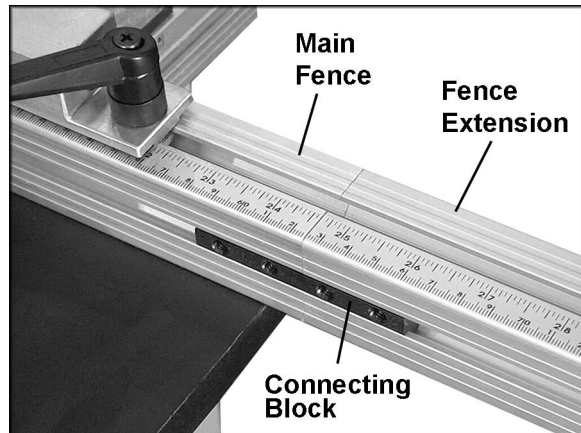

Figure 4
1. On the main Fence, loosen the four set screws in the front connecting block (Figure 4) and the rear connecting block (not shown) with a 2.5 mm hex wrench.
2. The connecting blocks should be located in the side channels of the main Fence. If they are not, slide them out and re-insert them into the side channels, as they are shown in Figure 4.
3. Slide the fence extension onto both connecting blocks, and flush against the main fence, as shown in Figure 4.